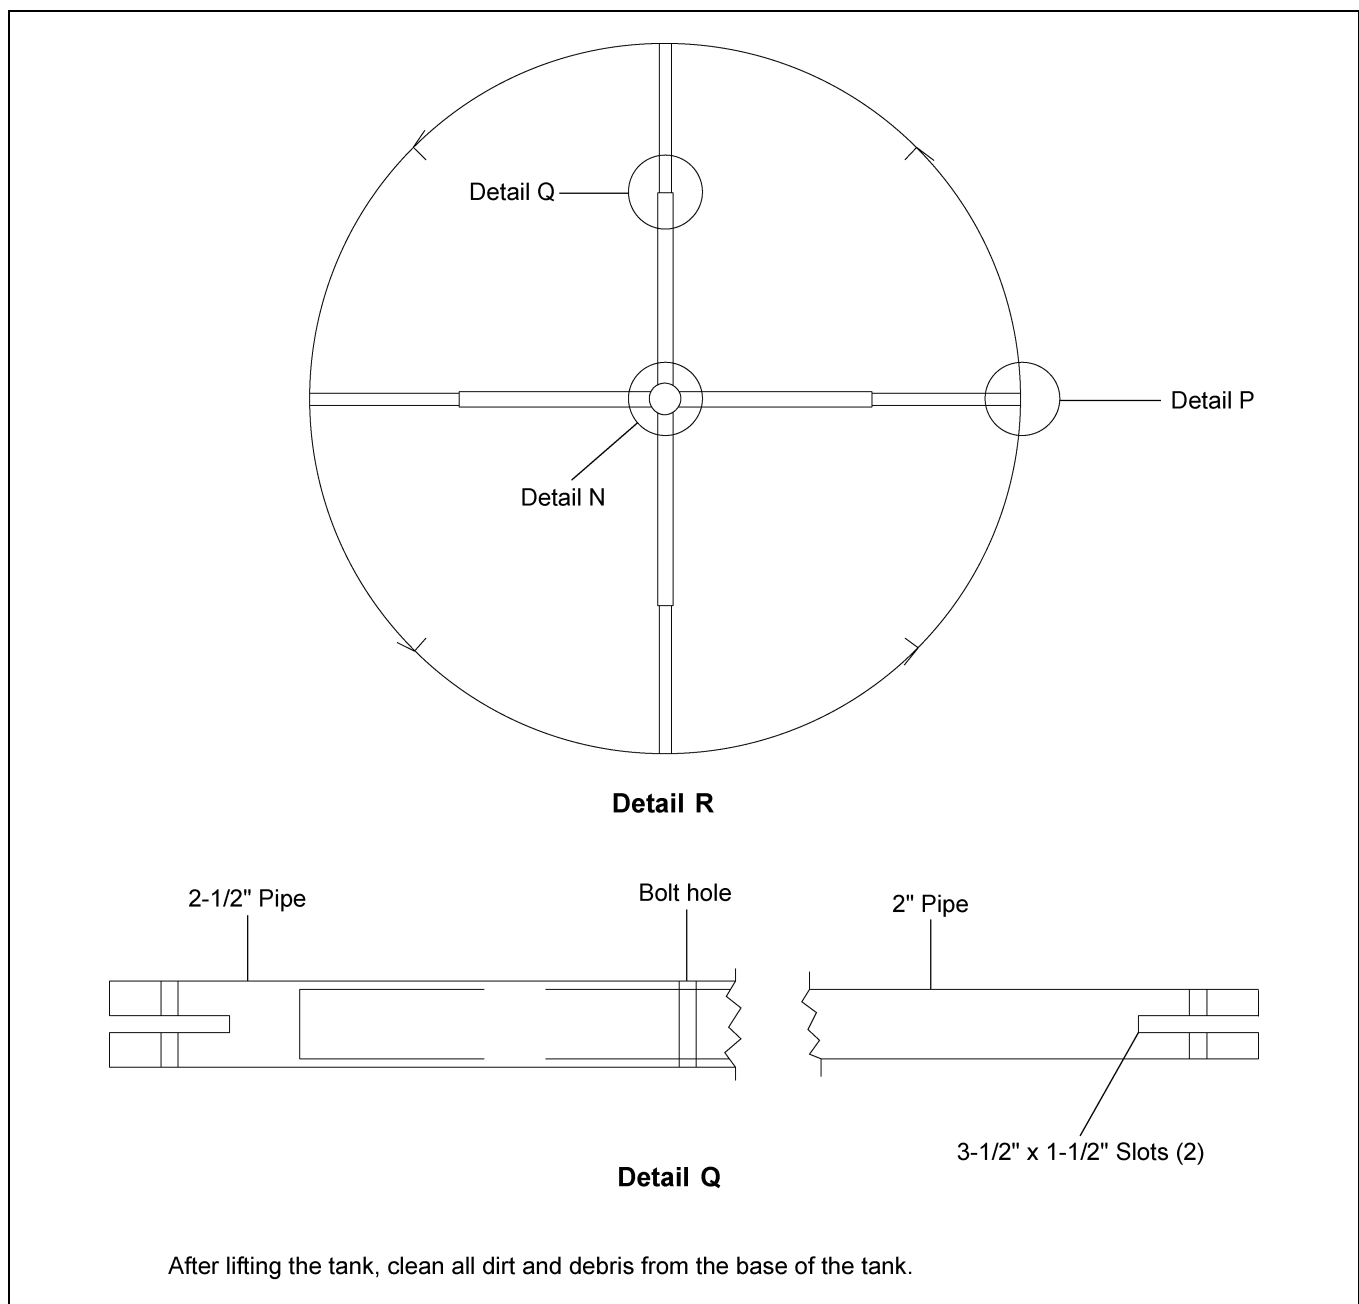

Figure 16D
- Before setting tank on hopper structure, make sure poly base sealer has been applied to bottom lip of tank base angle. Set tank on hopper compression ring and align the holes in stiffener base plates with the holes in the compression ring. Bolt stiffener base plate, compression ring and support column top plate with two (2) $5/8"$ x $2-3/4"$ hex head bolt per stiffener. Shim all stiffener base plates with a base angle shim plate. Column/stiffener shims can be used to shim stiffener base plates when needed. Align 4" bin hold-down with hole in center of compression element and attach with $5/8"$ x $1-1/2"$ hex head bolt. Field drill six (6) $3/8"$ diameter holes in tank sidewall to match pattern in bin hold-down. Bolt sidewall to hold with $5/16"$ diameter bin bolt. (See Figure 16D.)